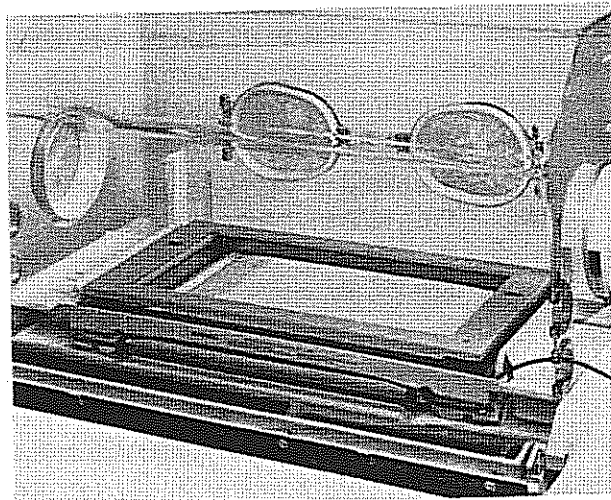

FIGURE 2.4 WEIGHING PLATFORM INSTALLED IN MATTRESS TRAY
- C. INSTALL THE WEIGHING PLATFORM in the Incubator Mattress Tray (Figure 2.4). Make sure it is level.